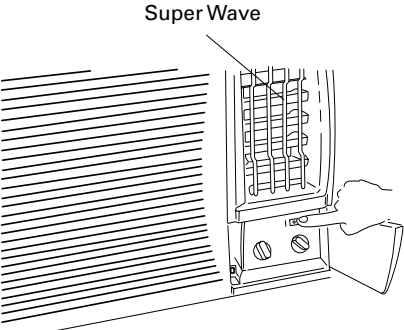

Fig. 1
When the SUPER WAVE switch is put on, the SUPER WAVE moves and blows air to the left and right (See Fig. 1). On attaining the desirable direction of the air blow and on putting off the SUPER WAVE switch, the air blow in that particular direction can be achieved. Do not move the SUPER WAVE's louvers inside the outlet with the hand as it might cause damage. The SUPER WAVE's louvers do not move even if the SUPER WAVE switch is in the MASTER CONTROL ⑥ (OFF) position